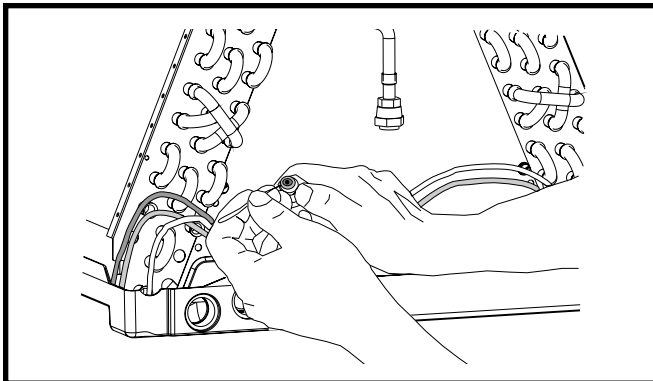

Figure 7. Removal of Orifice
6. Insert a light-gauge wire hook between the distributor body and the restrictor orifice while being careful not to scratch either part. Carefully remove the restrictor orifice from the distributor body. See Figure 7.